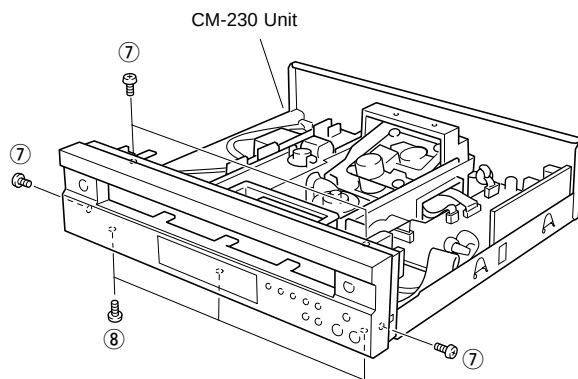

Fig. 3
- Remove 4 screws (⑦) and 3 screws (⑧) as shown in Fig. 3.
- Remove the Front Panel Unit as shown in Fig. 3.